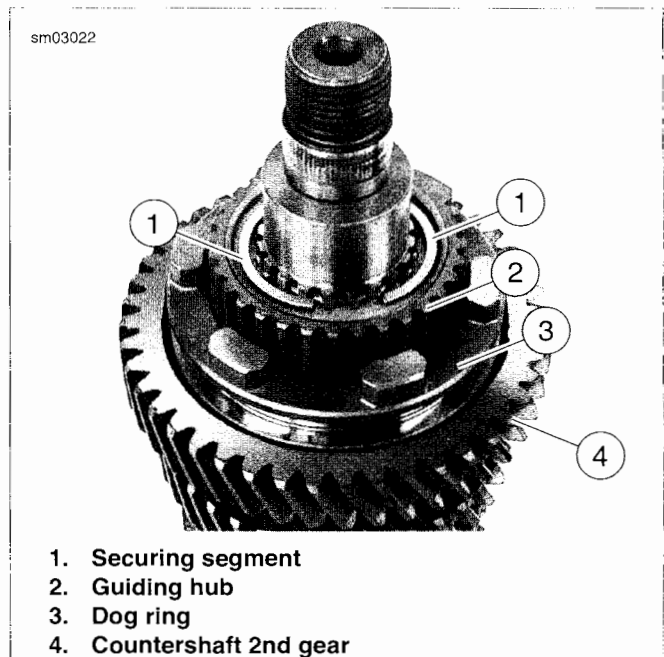

Figure 6-19. Securing Segment
5. See Figure 6-19. Remove securing segments (1). Remove dog ring (3), guiding hub (2), countershaft 2nd gear (4) and bearing.
- See Figure 6-19. Install **new** needle bearing, countershaft 2nd gear (4), guiding hub (2), dog ring (3) and securing segments (1) on countershaft.